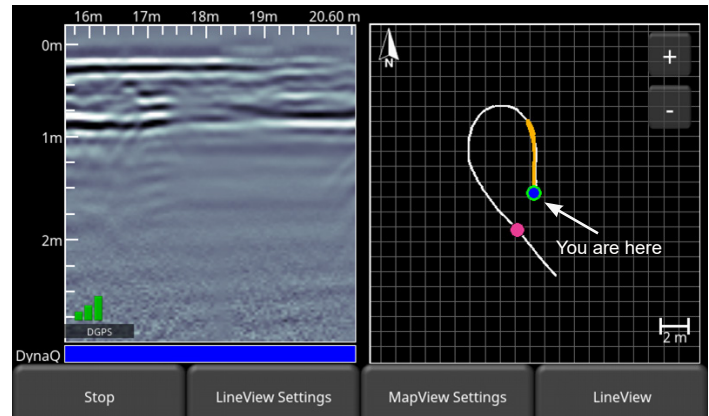

Figure 1: Blue dot is where the LMX200® is located. This makes it easy to return to the location of a target indicated by the pink interpretation dot.
Survey Area - The survey area was 30.2 x 30.2 m, on a 15-18 degree slope and encircled by a very tall fence. There were four areas with bodies that were selected to be surveyed (Figure 1).
Figure 1: Top down view of the surveyed site, showing the four grid collection areas. Note that Grid 4 was also collected but was not included on this figure as it was replaced by Grid 5 which was collected over the same area.
To demonstrate the suitability of GPR for imaging and monitoring such small-scale features, we conducted a GPR survey on a field with clearly visible mole activity in Tubney, Oxfordshire, UK (Figure 1). Mole tunnel systems are often extensive, and the tunnels are small in diameter (approx. 0.05 m), making mole tunnel systems ideal for testing the applicability of GPR for imaging and monitoring the geometry of such features. To test these GPR capabilities, we conducted two surveys, one year apart, using a pulseEKKO PRO[®] system using a set of transducers with a 1000 MHz centre frequency. In previous surveys we found that a high precision positioning system is essential for such an application. Therefore, we used a self-tracking total station (Figure 1), which tracks the GPR antennas and transmits real time coordinates to the GPR acquisition system. With this setup, both 3D GPR data sets were acquired with an inline trace spacing of approximately 1 cm and a line spacing of approximately 5 cm.
Figure 1: Data acquisition at the field site using a pulseEKKO[®] PRO system in combination with a self-tracking total station (tripod at the left site of the image).
1. Return to a location – during a utility survey you may locate an object on the GPR data and place an interpretation on it (pink dot in Figure 1). Now, say you want to return to that location. Simply look at the MapView screen (Figure 1) and navigate as your current position (blue dot) moves toward the interpretation you marked earlier.